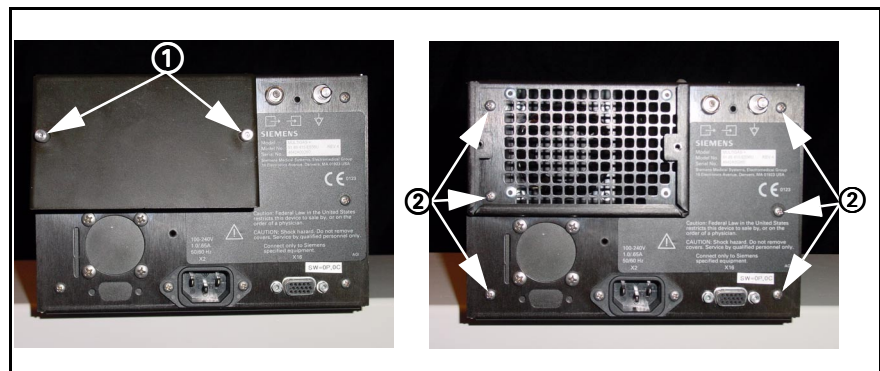

Figure 3-4 MGM Module Rear View
2. Remove and save knurled screws (① in Figure 3-4) that secure filter cover to rear panel, and remove cover and filter.
4. Remove and save six screws (② in Figure 3-4) that secure rear panel subassembly to MGM main chassis.